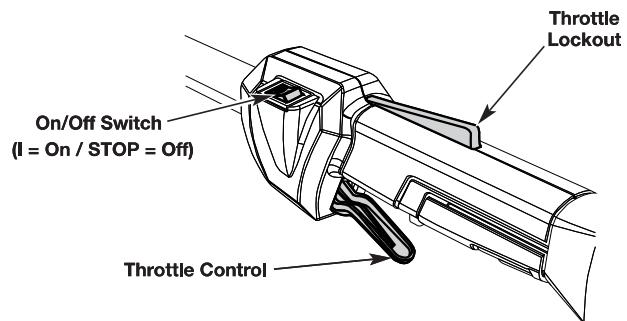

Fig. 7
NOTE: There is no need to turn the unit on. The On/Off switch is in the On (I) position at all times (Fig. 7).
7. To increase trimmer cutting speed, press and hold the throttle lockout with one hand, and then squeeze the throttle control with the other. The further you squeeze the throttle control, the more the cutting speed will increase (Fig. 7).
2. Press and hold the On/Off switch in the Off (O) position until the engine comes to a complete stop (Fig. 7).